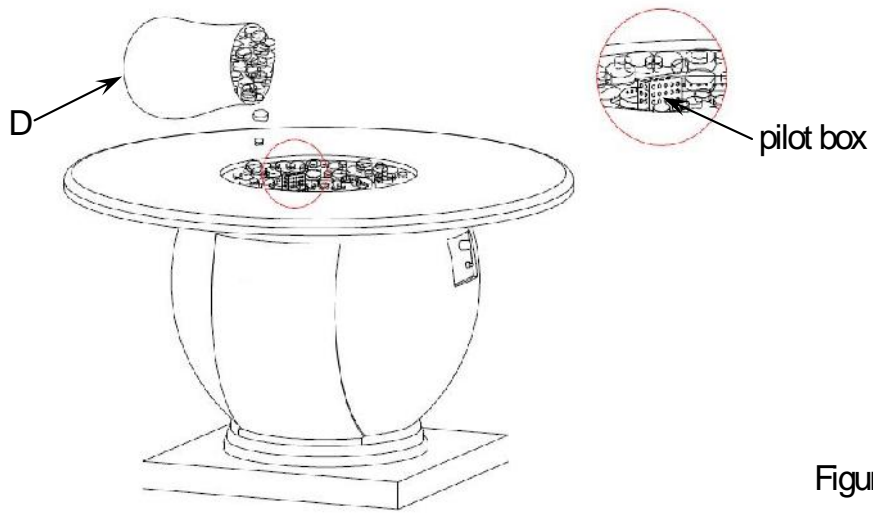

Figure 3
- Place Fire glass (D) around the burner, then remove the label from the pilot box, see Figure 3. A gas fire pit requires 30.8 lbs fire glass.